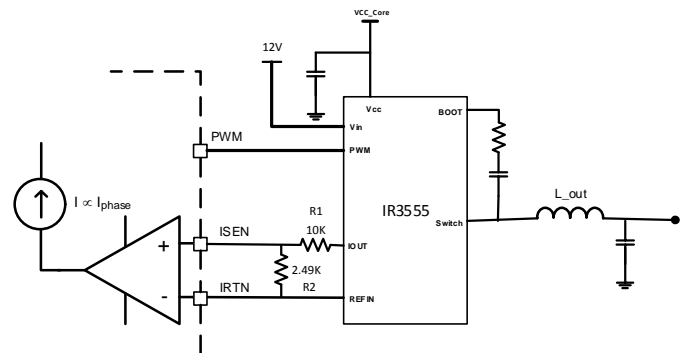
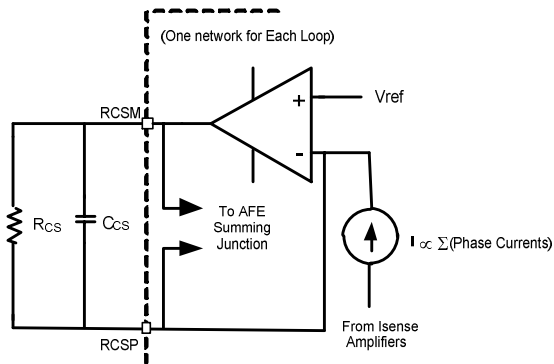

Figure 22  $R_{DS(ON)}$  Current Sense
Figure 26 Load Line for RDS(ON) Current Sense
Additionally, the current sense inputs to the IR35201 can also be directly fed the current information from a PowIRstage having  $R_{DS(ON)}$  sensing capability, thereby eliminating the need for the R-C sense components,  $R_{SEN}$  and  $C_{SEN}$  as shown in Figure 22. The IR3555 has an IOUT gain of 5mV/A. A divider of 5:1 should be used to match the ISENSE amp input dynamic range. The recommended values are 10K and 2.49K. The REF pin is offset above 0V by connecting it to the 1.8V CFILT pin.
IR35201 reads the current value from individual power stages as shown in Figure 22. The power stage measures the output current by sensing the voltage drop across lower side MOSFET. The current sensed by the power stage is thermally compensated hence there is no need of an external thermistor for temperature compensation. Thus, RDS(ON) current sense reduces the component count required for loadline measurement as shown in Figure 26.